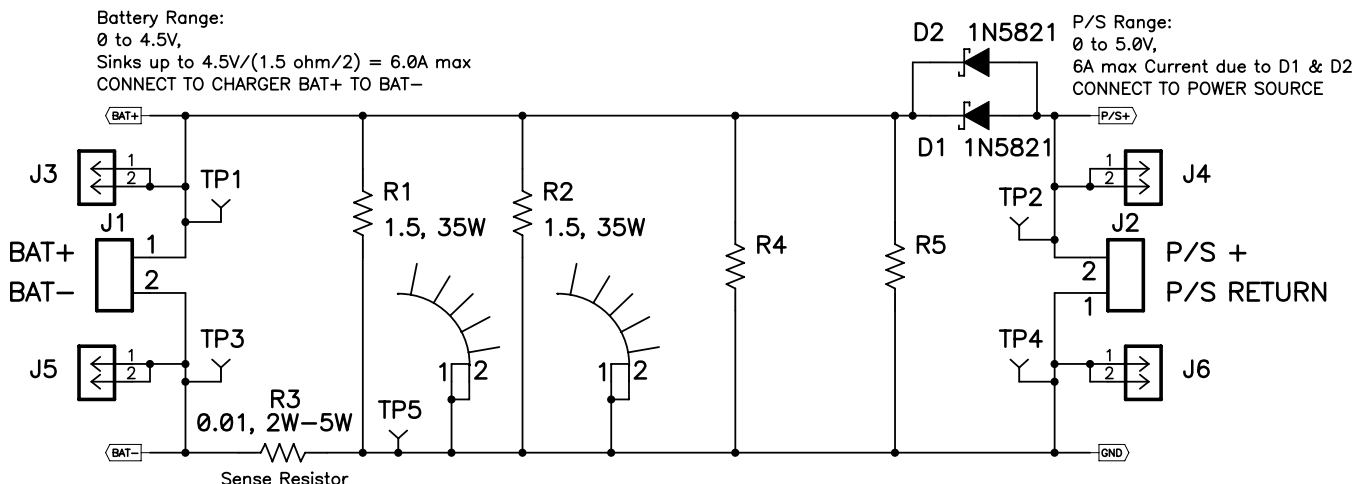

Figure 2. BAT Load (PR1010) Schematic
Testing with an actual battery is the best way to verify operation in the system. If a battery is unavailable, then a sourcemeter like a Keithley 2420, capable of both sourcing and sinking current, or a circuit similar to the one shown in Figure 2 can simulate a battery when connected to PS#2.
4. Connect a voltage meter (VM#1) across J2 and J3 or TP1 (IN) and TP6 (GND).
5. If BAT_Load (PR1010), as shown in Figure 2, is used, connect PS#2 set to approximately 3.1 V to the input side (PS#2 $\pm$) of BAT_Load (PR1010), then turn off PS#2.